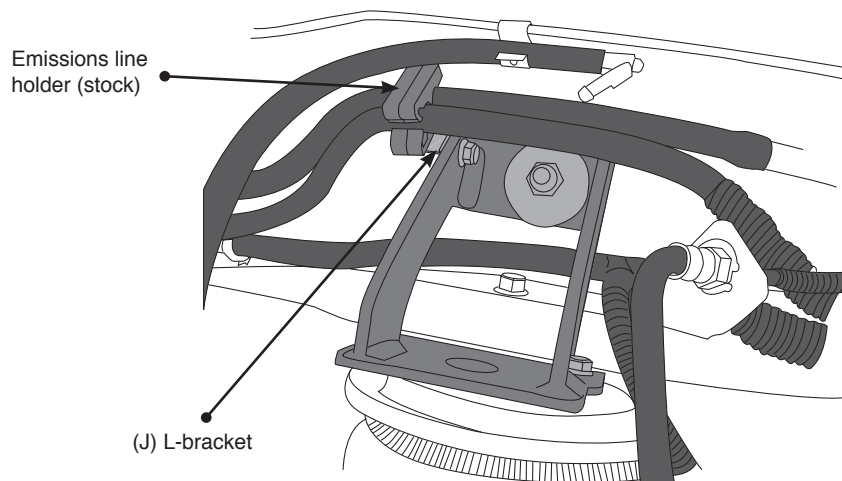

fig. 8
6. Cap the brace/upper bracket carriage bolts (P) with a 3/8" flat washer (W) and 3/8" nyloc nut (V) and tighten both securely on both sides.
7. With the spacers (F) on the upper brackets tight to the bottom of the frame and the braces tight to the upper bracket, tighten the 1/2 or 3/4" hardware previously installed, that hold the braces to the frame. Tighten both sides securely.
8. If so equipped with the emissions line previously loosened from the frame, insert the line holder post into the L-bracket (J) attached to the back leg of the upper left brace (B) (fig. 8). It may be necessary to move the line holder post forward or back on the lines to line up correctly with the L-bracket hole. Reattach any line holders removed forward or behind the axle, if possible, that were removed to aid in positioning the upper bracket.